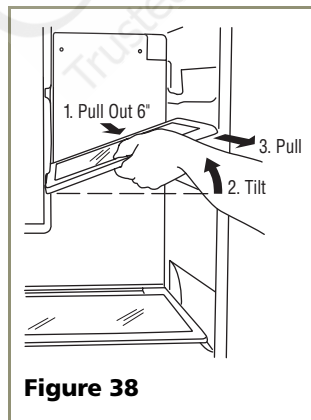

Figure 38
1. See **Figure 38**. Pull shelf out about 6" to clear the wall's molded protrusion.